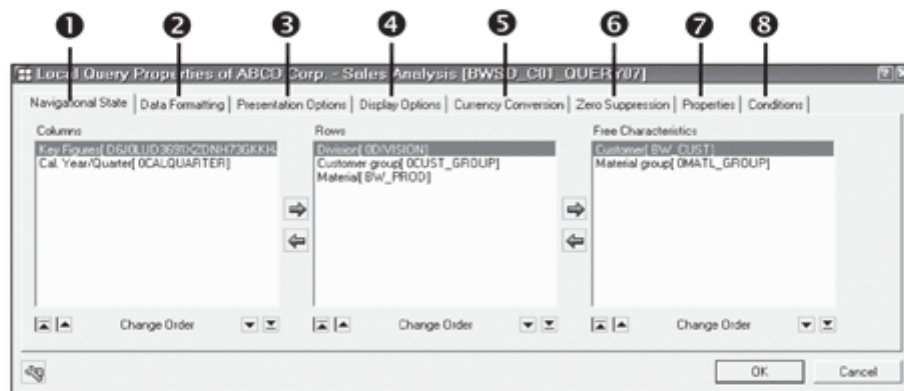

Figure 10.21 Maintaining Query Properties
The query properties window displays eight tabs where you can set properties to control the query behavior locally in the workbook (Figure 10.21).
The Navigational State tab page controls the layout of the query (❶ of Figure 10.21). Here you can redefine the rows/columns/free characteristics in the query by moving the query elements using the arrow buttons.